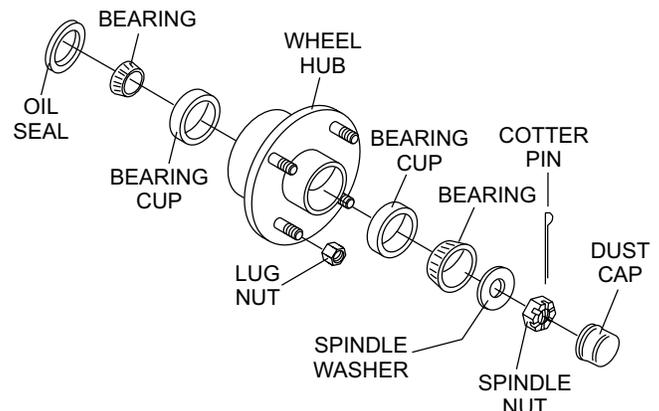

Figure 66. Wheel Hub Components
Wheel bearings (Figure 66) must be inspected and lubricated once a year or 12,000 miles to insure safe operation of your trailer.
Follow the steps below to disassemble the wheel hub and service the wheel bearings. See Figure 66.
2. Torque all lug nuts in sequence (see Figure 6). **DO NOT** torque the wheel lug nuts all the way down. Tighten each lug nut in 3 separate passes as defined by Figure 66.